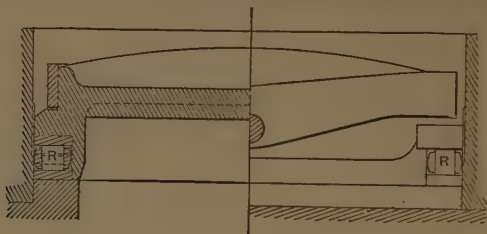

Fig. 83. Bristol Roller Valve.
A. The valve rested on a number of small rollers RR (figures 83, 84), each side connected to a frame, their axles having a little play in their journals. Steel plates were attached to the valve on each side and others to the valve-seat, so that the rollers rested on the latter below and the valve was carried by.